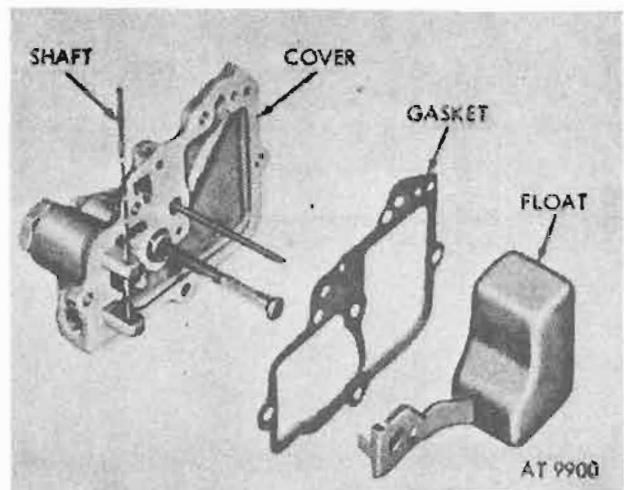
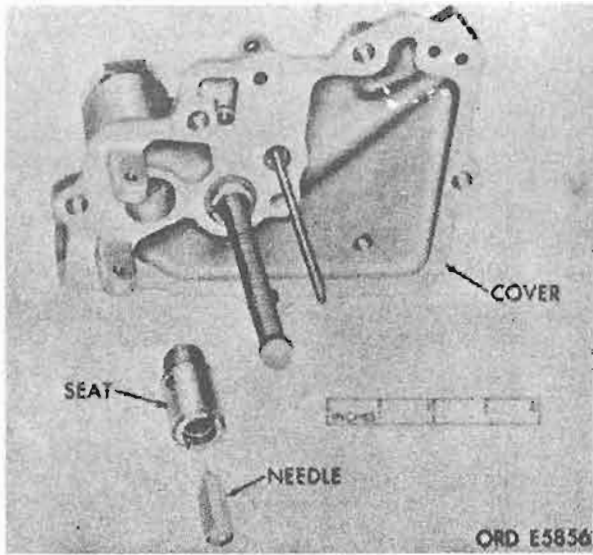

Figure 5-8. Carburetor float and float shaft.
Figure 5-9. Inlet needle seat and needle.
- (2) Remove float shaft. Lift out float and remove cover gasket (fig. 5-8).
- (3) Tilt cover to allow fuel inlet needle to fall out. Remove fuel inlet needle seat (fig. 5-9).
Install fuel inlet needle seat and fuel inlet needle (fig. 5-9). Install float with new gasket; secure float with float shaft (fig. 5-8).